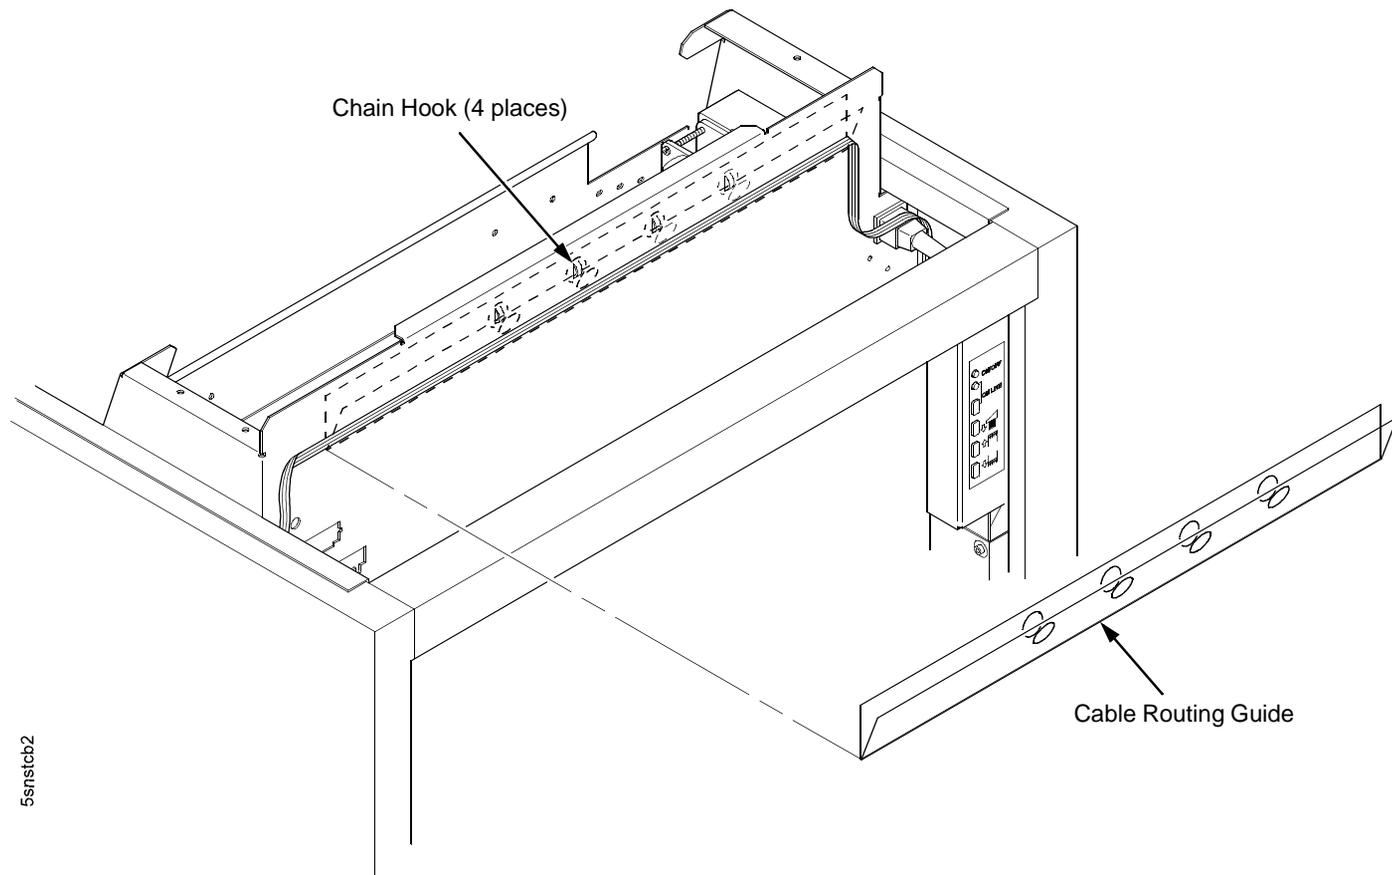

Figure 86. This figure shows how to install the cable routing guide behind the card cage on printers using the CMX or CFX controller board.
11. Route the stacker logic cable straight through the routing guide, making sure that it is not twisted. (Figure 86.)
12. Position the cable routing guide so that the four chain hooks protrude through the holes in the guide. (Figure 86.)